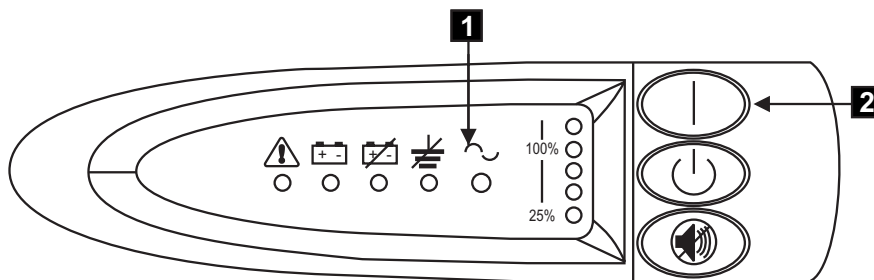

Figure 36. Power switch and indicators on the 2145 UPS
10. All front panel indicators of the 2145 UPS flash for a short time while the 2145 UPS runs a self-test. When the test is complete, the mode indicator **1** flashes to show that the 2145 UPS is in standby mode; see Figure 36.
Press and hold the 2145 UPS On button, **2** in Figure 36, until you hear the 2145 UPS beep (approximately one second). The mode indicator stops flashing and the load-level indicators display the percentage of load that is being supplied by the 2145 UPS. The 2145 UPS is now in normal mode and is charging its battery.